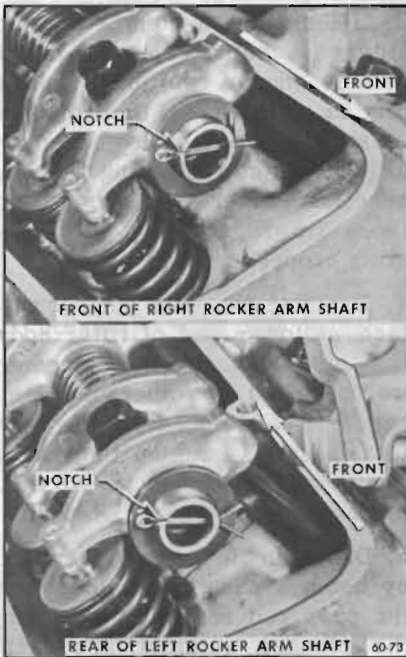

Figure 60-214—Rocker Arm Shaft Alignment
9. Check notch on one end of rocker arm shaft. Be sure it is positioned as shown in Figure 60-214.